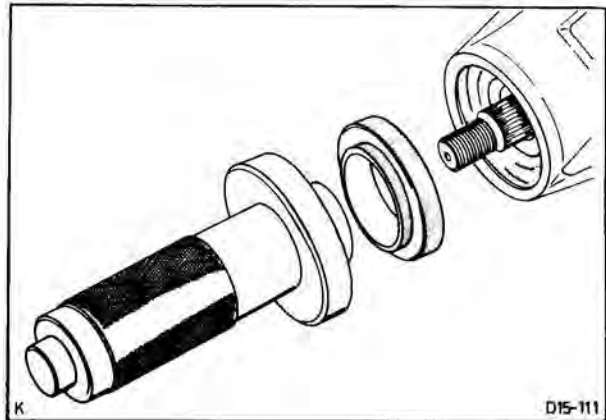

Fig. 137. Install oil seal with special tool no. 15-047B
5. Install oil seal with Special Tool. Lightly grease seal between the two lips, Fig. 137.